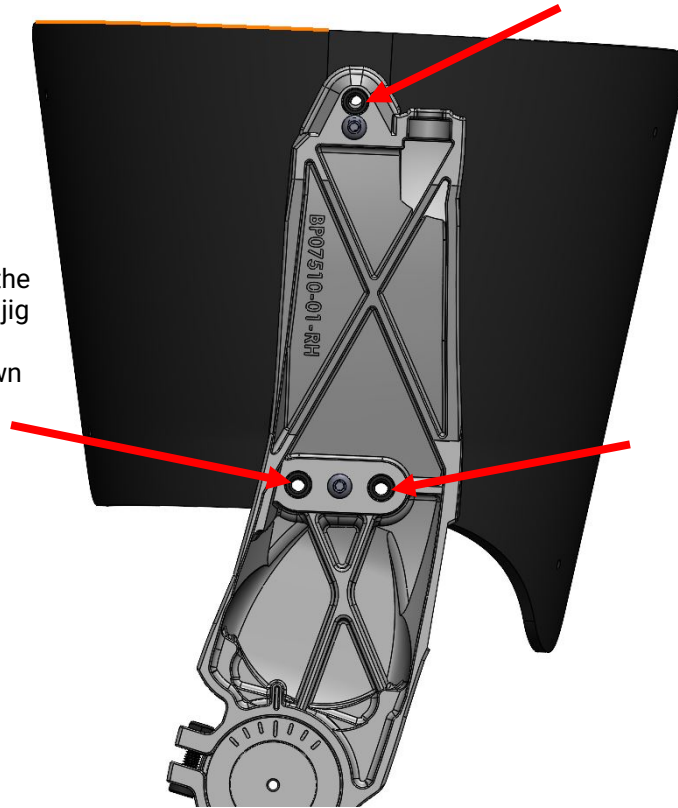

Figure 10 Hole locations
- After the Spacers are ground to match, use the jig and Spacers as a drill guide to drill three 4.2mm diameter holes in the KAFO Upper Shell shown in Figure 10.